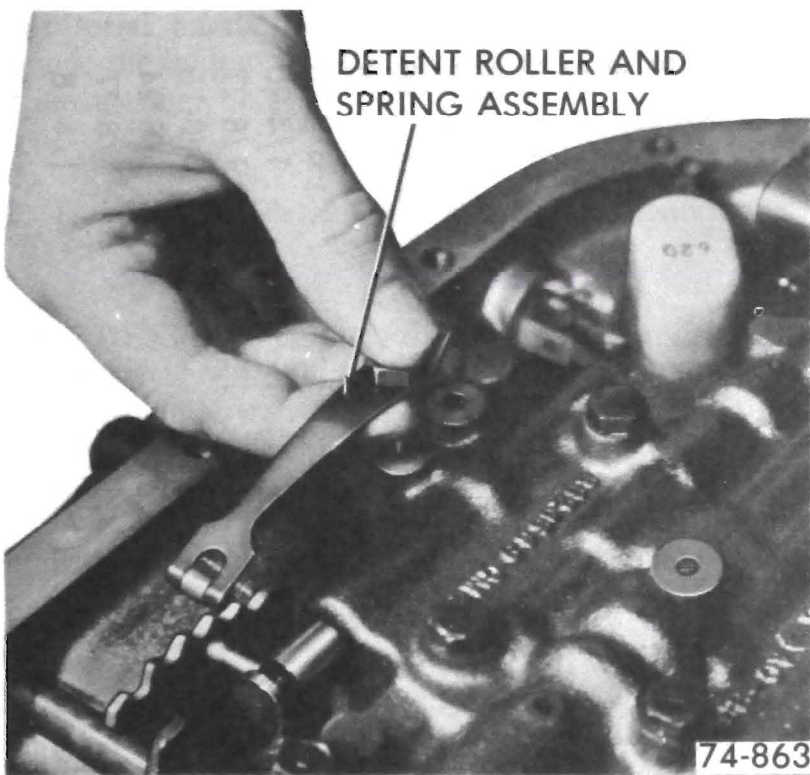

Figure 76-276
6. Remove guide pins and install detent roller and spring assembly and remaining bolts. See Figure 76-276.